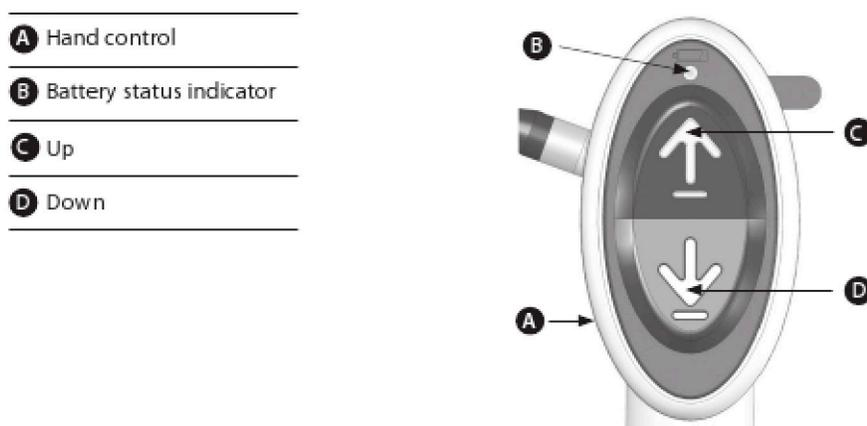

fig 7
1. To raise the bath lift, press the hand control UP button (see fig 7). If the side flaps are caught on any obstruction, immediately lower the bath lift by pressing the hand control DOWN button. Pull each side flap free from the obstruction, then resume the lifting operation.